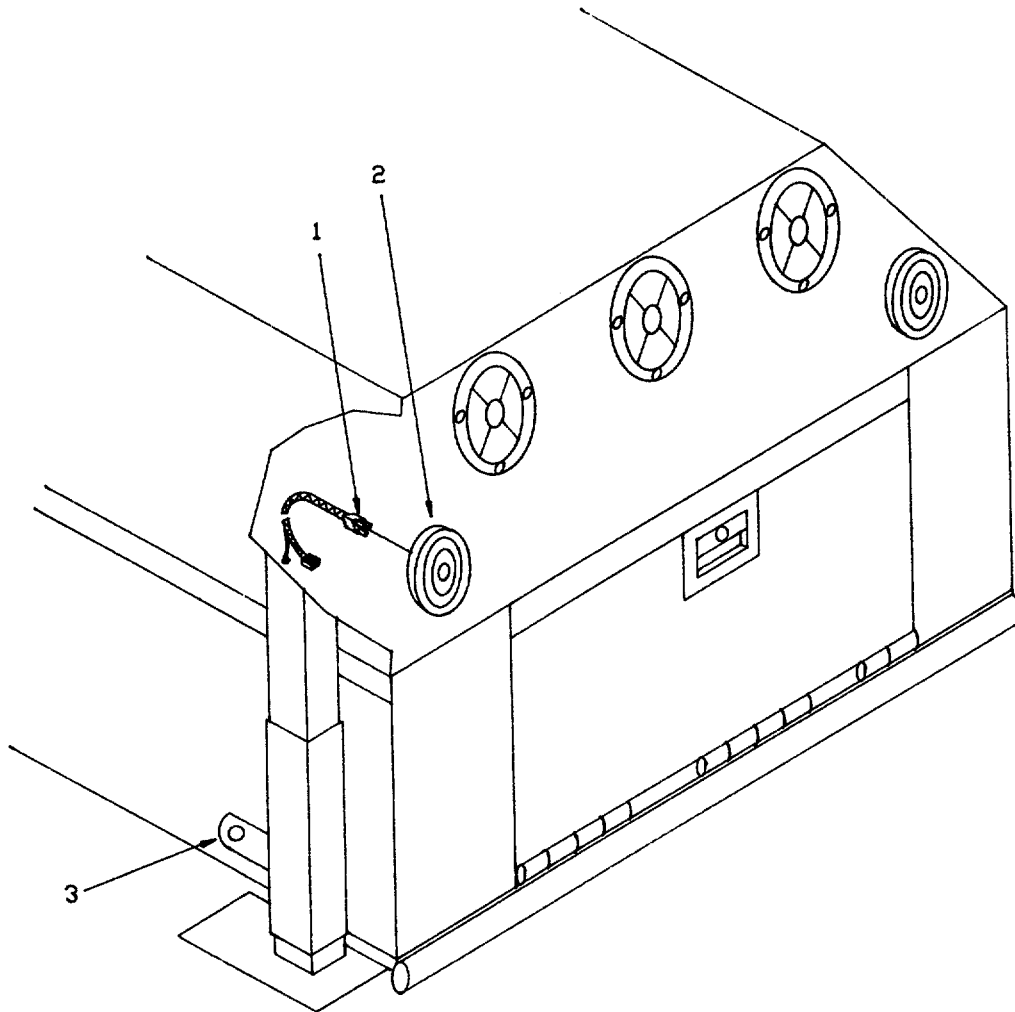

Figure 4-16. Vehicular Stop Light and Indicating Reflector.
- (1) Remove plug (1, Figure 4-16) from vehicular stop light (2).
- (2) Apply pressure from inside of complete top hood assembly to remove vehicular stop light (2).
- (3) Pry off indicating reflector (3).